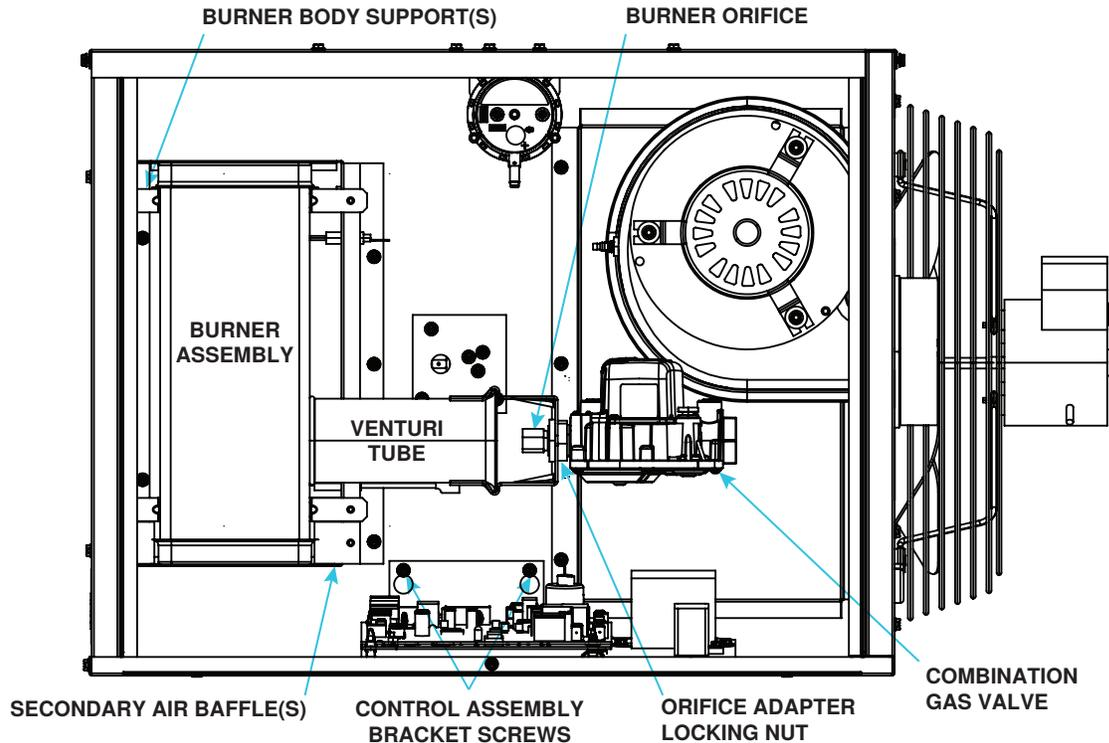

Figure 16. Burner Compartment (Typical)
Visually inspect the burner compartment (see Figure 16). If there is an accumulation of dirt, dust, and/or lint, clean the compartment and remove and clean the burner as follows:
2. Remove burner assembly (see Figure 16):
- (1) Remove four screws that secure end cap to burner housing.
- (2) Lightly tap end cap to remove it.
5. Re-install burner assembly (see Figure 16):